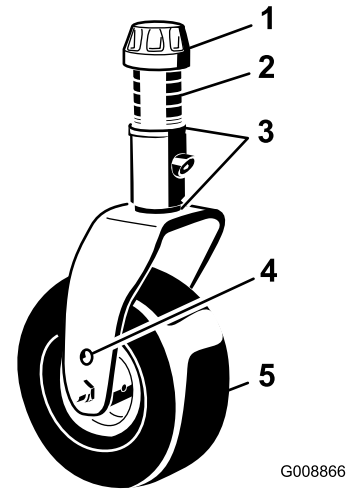

Figure 29
3. Adjust the shims (3 mm or 1/8 inch) on the front caster fork(s) to match the height-of-cut decal (Figure 29); refer to Adjusting the Mower-Deck Pitch \(page 75\).